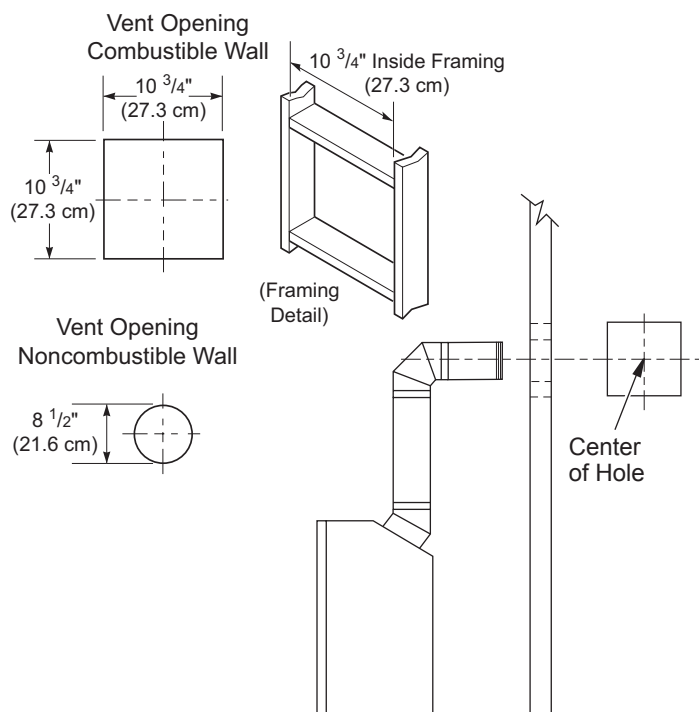
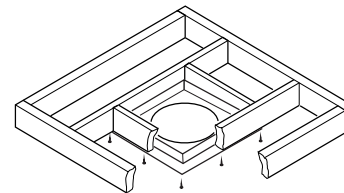

Figure 9 - Vent Opening Requirements
Figure 20 - Installing Firestop
- Carefully determine the location where the vent pipe assembly will penetrate the outside wall. The center of the hole should line up with the center-line of the horizontal vent pipe. Mark the wall for a 10 ³/₄" x 10 ³/₄" square hole. Cut and frame the square hole in the exterior wall where the vent will be terminated. If the wall being penetrated is constructed of noncombustible material, such as masonry block or concrete, a 8 ¹/₂" hole with zero clearance is acceptable (see Figure 9).
1. Cut a 10 3/4" square hole in the ceiling using the locating hole as a center point. The opening should be framed to 10 3/4" x 10 3/4" (27.3 cm x 27.3 cm) inside dimensions, as shown in Figure 9 on page 8 using framing lumber the same size as the ceiling joists. If the area above the ceiling is an insulated ceiling or an attic space, nail firestop from the top side. This prevents loose insulation from falling into the required clearance space. If the area above the ceiling is a living space, install firestop below the framed hole. The firestop should be installed with no less than three nails per side (see Figure 20).
3. Cut a hole in the roof using the locating hole as a center point. (Cover any exposed open vent pipes before cutting hole in roof.) The 10 3/4" x 10 3/4" hole must be measured on the horizontal; actual length may be larger depending on the pitch of the roof. There must be a 1" clearance from the vent pipe to combustible materials. Frame the opening as shown in Figure 9, page 8.